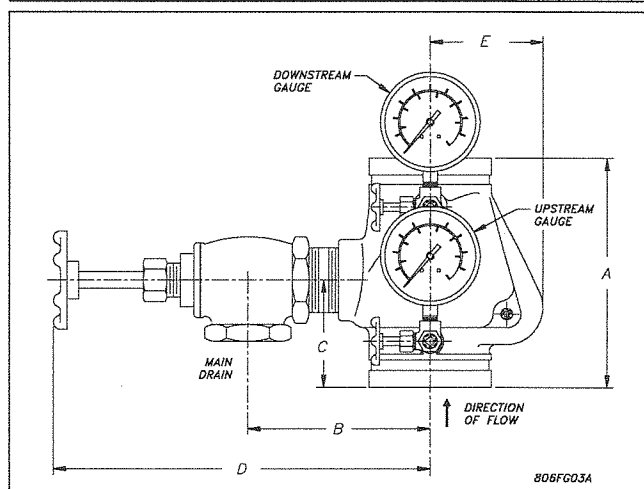

Figure 2
5. Dimensions A - E (Refer to figure 2).